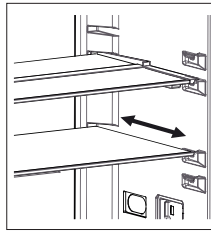

Fig. 1
- To cover the glass shelf, push it. (Fig. 1)
- To bring the shelf to its original position, pull it toward you. (Fig. 1)